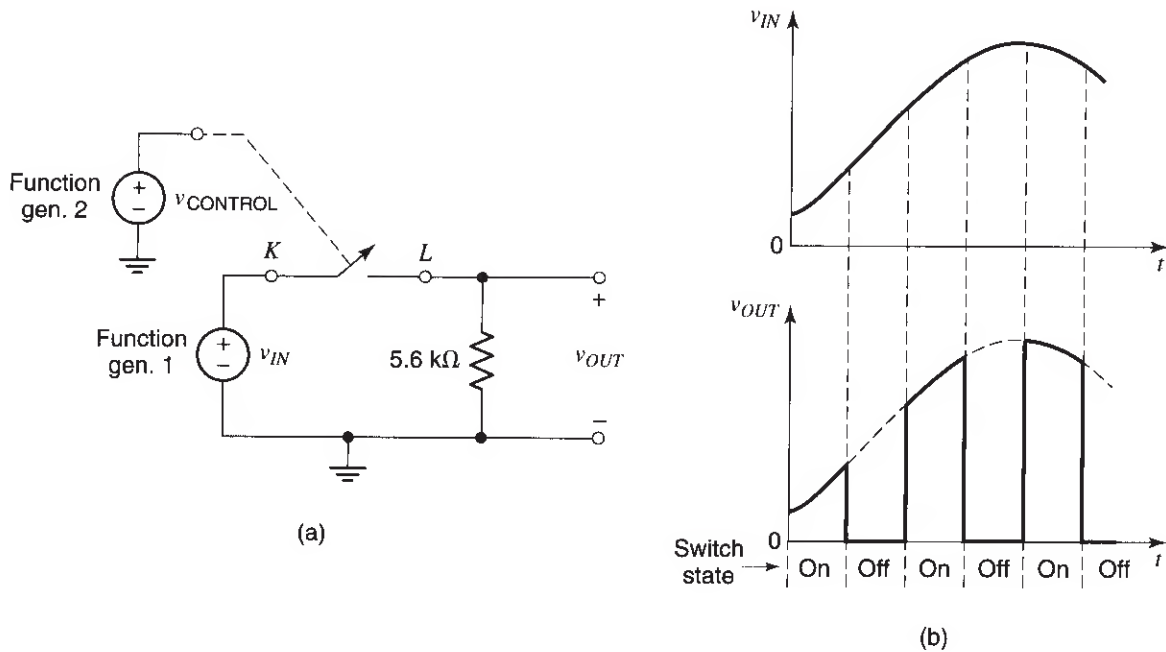

Fig. 8
15. The circuit in Fig. 8(a) is called a *chopper*, and is used in communications and instrumentation. When the switch is closed, the output is connected to the input and v_{OUT} is
equal to v_{IN} ; when the switch is open, the output is disconnected from the input and v_{OUT} equals zero. This operation is illustrated in Fig. 8(b).
- Now connect the circuit of Fig. 8(a), using the values given in the previous step. Be sure the power supplies are connected as has been shown in Fig. 6(a) and are turned on. You will need two function generators. Use the scope to adjust the generator that provides the control voltage, so that it is a 10 kHz square wave with values -2 V and 2 V at its peaks and bottoms, respectively (if your generator does not provide such large values, smaller values can be tried). Then, use the scope's channel 1 to observe the input voltage (a 1 kHz sinusoidal voltage with a 1 V amplitude) and channel 2 to observe the output voltage. Trigger from channel 1. You will need to adjust *slowly and very carefully* the frequency of the control voltage generator to get a stable display. This adjustment may be tricky. Verify that the output waveform is as expected in step 15.